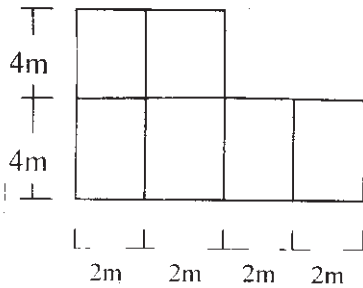

Figure 5.1
- Q5)** Determine the design eccentricity in Y-direction for a three storey building as shown in Figure 5.1. The total seismic weight /floor = 450 kN. The column size = 400mm × 600 mm. Assume grade of concrete = M25. [18]